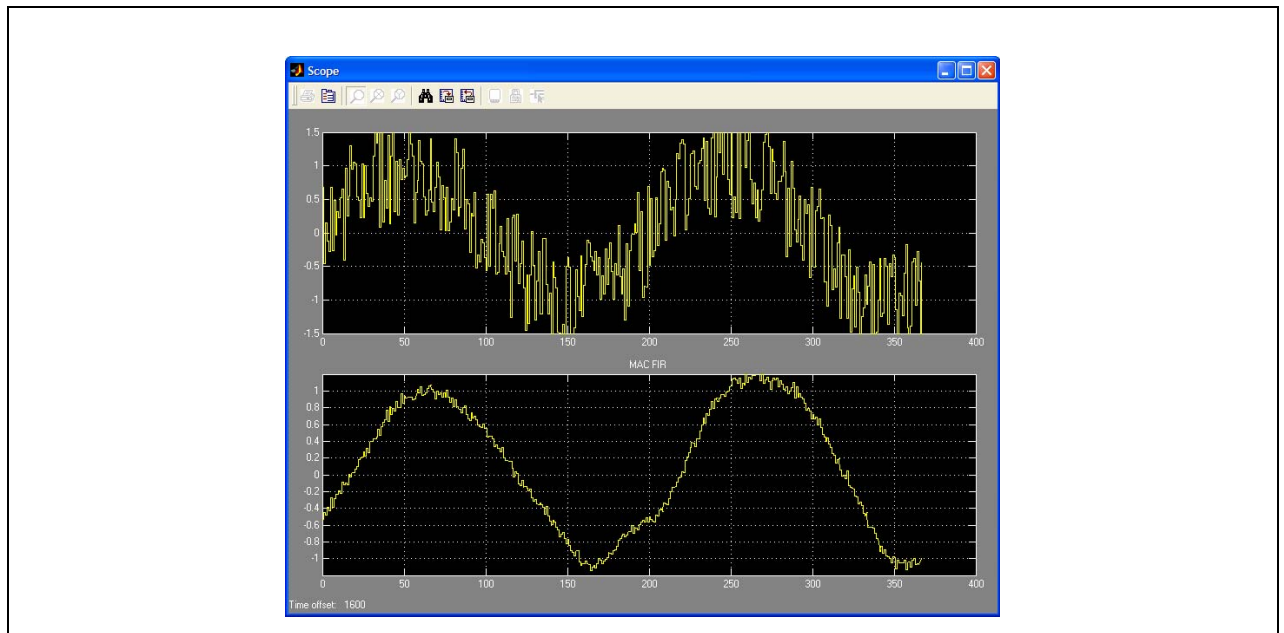

Figure 124: Scope Waveform
3. Simulate the model by clicking on the 'Start simulation' Icon shown right. At this point, without modifying the model, you should be able to see the plot shown in Figure 124 on page 202.